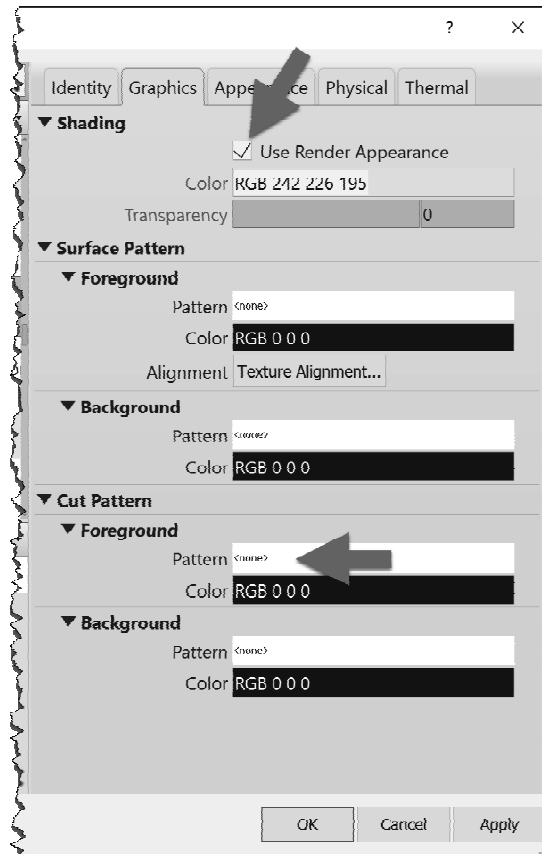

FIGURE 4-3.19
53. Make sure the **Use Render Appearance** under *Shading* is checked (Figure 4-3.19).
54. Set the *Foreground Cut Pattern* to **None** (Figure 4-3.19).